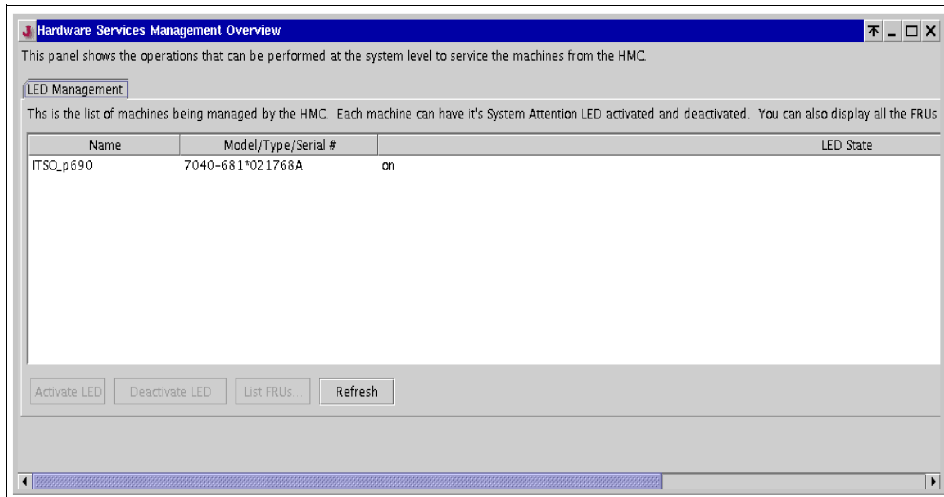

Figure 16-13 Hardware Service Functions overview
4. You will see the Hardware Service Management: Overview window, as shown in Figure 16-13 on page 742. Select the managed system for which you want to check the LED state, then select the **List FRUs** button.